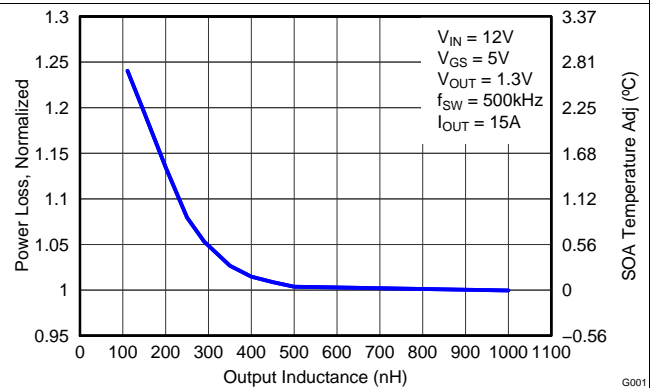

Figure 8. Normalized Power Loss vs Output Inductance
- Normalized Power Loss for output inductor ≈ 1.13 (Figure 8)
- SOA adjustment for output inductor $\approx 1.5^{\circ}\text{C}$ (Figure 8)